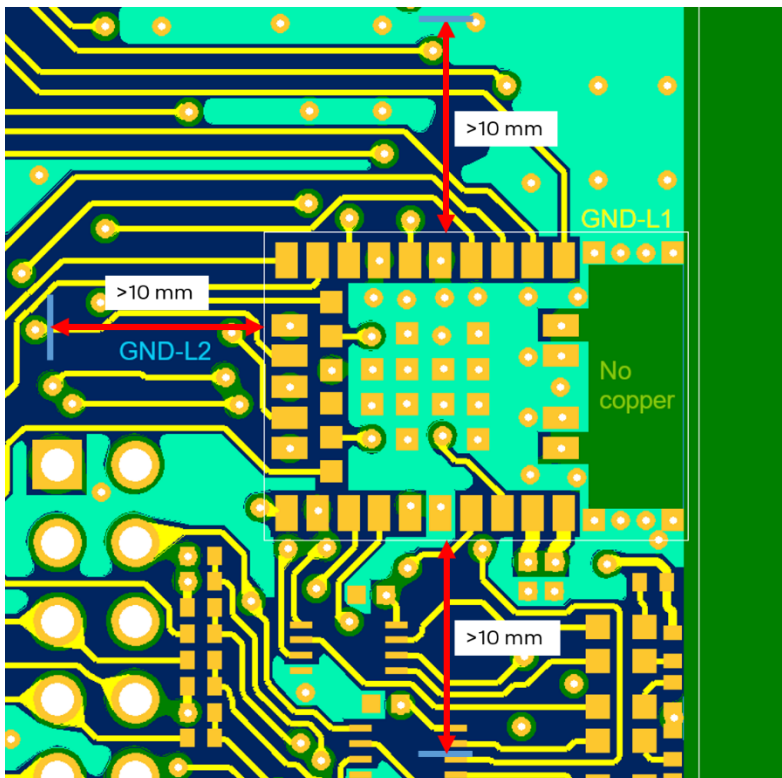

Figure 23: GND plane guard area enclosing the NINA-W1x6 module
- A large ground plane on the host PCB is a prerequisite for good antenna performance. It is recommended to have the ground plane extending at least 10 mm on the three non-edge sides of the module. See also Figure 23.